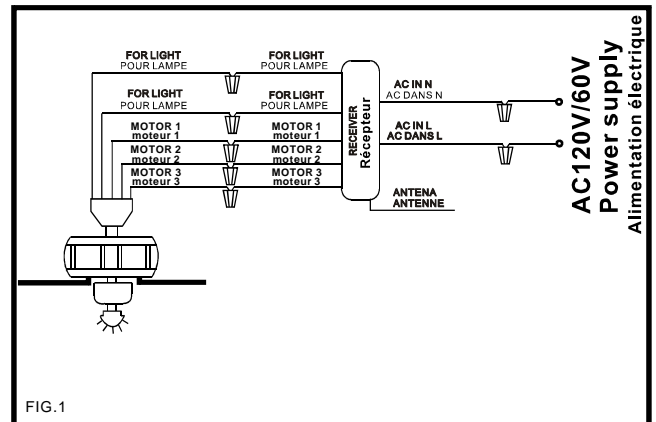

FIG. 1
3. CONNECTING THE RECEIVER (FIG.1)